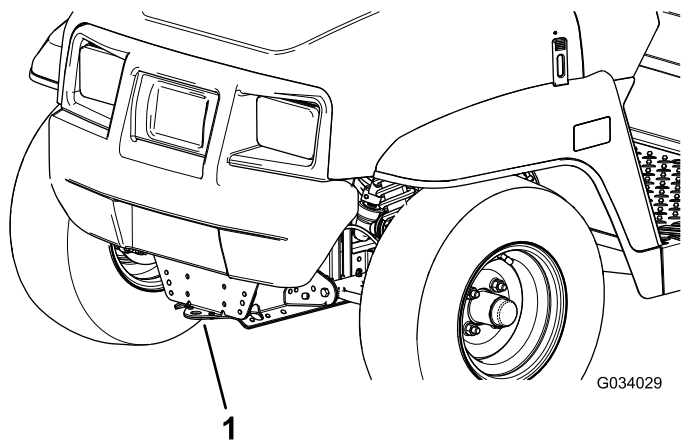
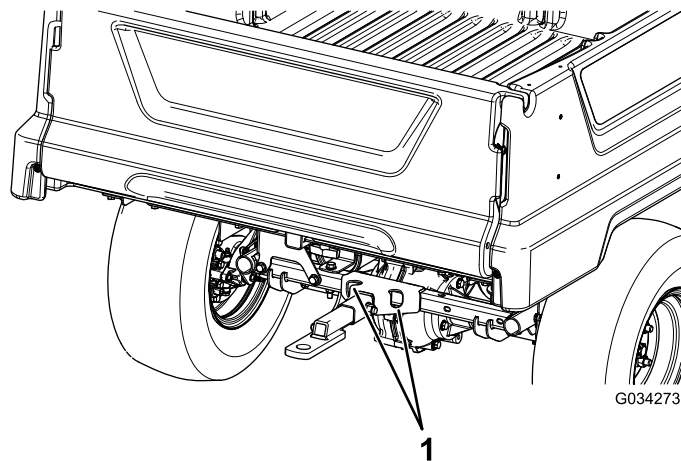

Figure 20
Figure 21
Use a trailer with full-width ramps to move the machine a long distance. Make sure that the machine is securely bound to the trailer. Refer to Figure 20 and Figure 21 for the location of the tie-down points on the machine.
2. Affix a tow line to the tongue at the front of the machine's frame (Figure 20).